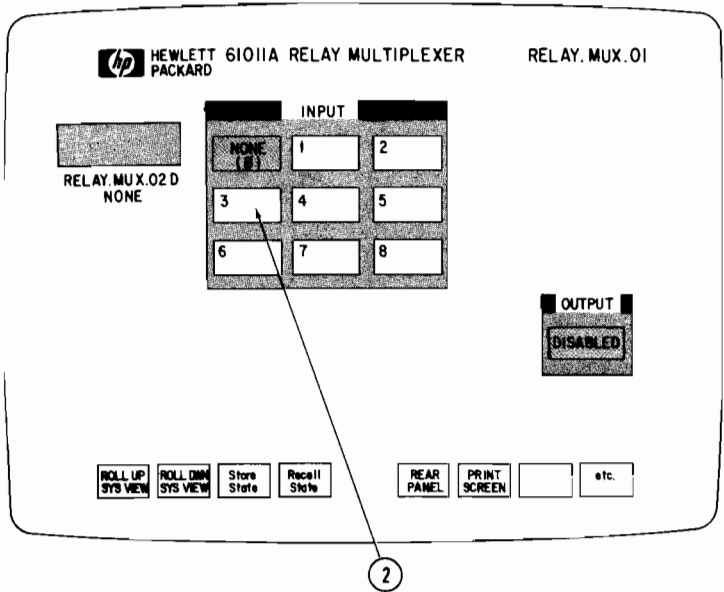

Figure 2-2. Select an Input
Step 2 - Once you select RELAY.MUX.01, the RELAY.MUX.01 information in the System View Window disappears, and the RELAY.MUX.01 front panel appears in the Interactive Instrument Window (see Figure 2-2). Notice that NONE is the default selection. To operate RELAY.MUX.01, first point to and select the input 3 field.